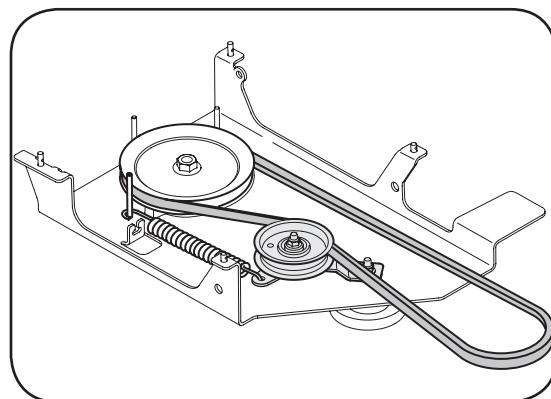

Figure 4-2
2. Refer to Fig. 4-2 for correct position.